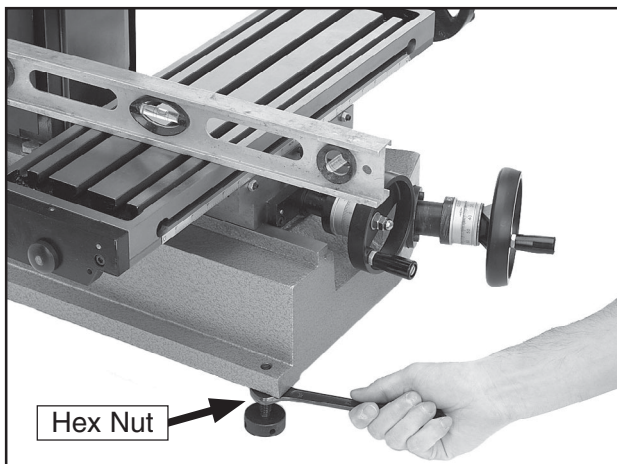

Figure 7. Leveling the mill/drill.
2. Loosen the hex nut(s), as shown in **Figure 7**, and turn the feet until the mill/drill is level side-to-side and front-to-back.